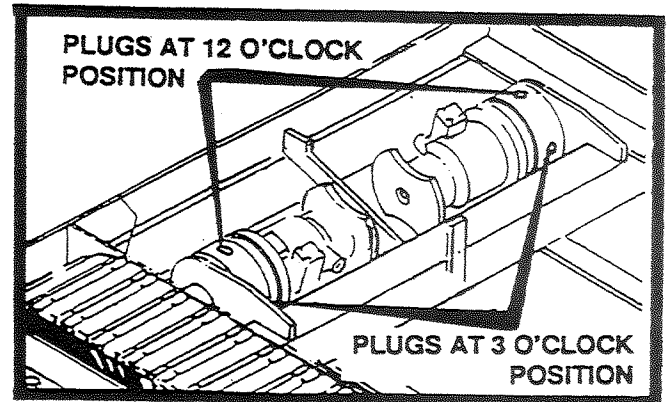

FIGURE 29
1. Check oil level in the torque hub by removing the plug at the 3 o'clock position. If oil comes out no oil is needed. Insert plug and tighten. If oil does not come out, remove the plug at the 12 o'clock position and fill torque hub with **90 wt. gear oil** until oil starts to appear at the other hole. Replace both plugs and repeat process to other torque hub. See Figure 29.